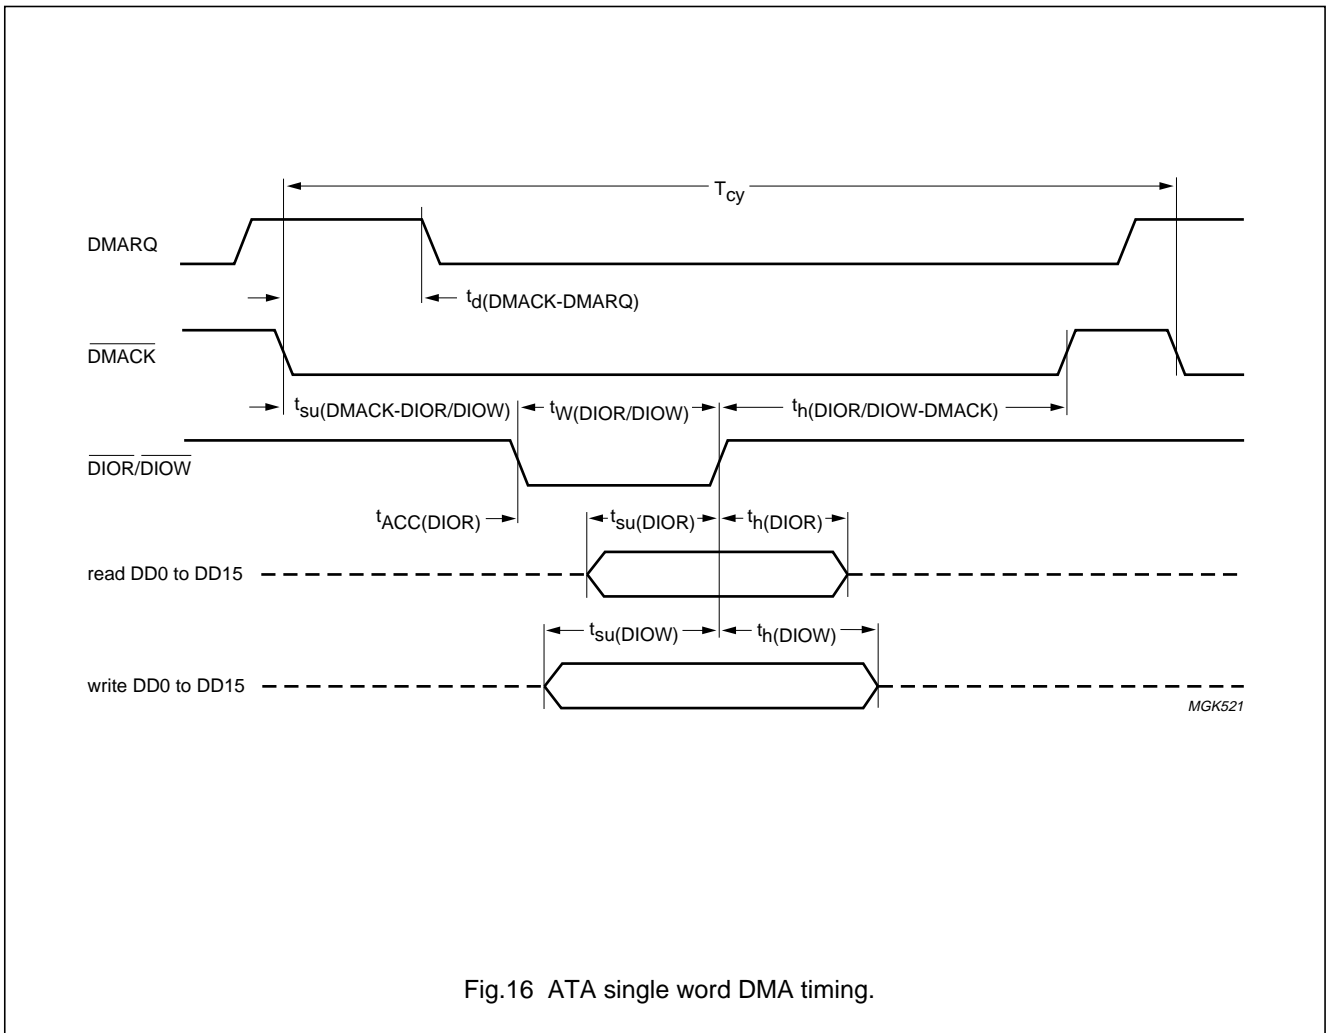

Fig.16 ATA single word DMA timing.
**Table 107** Single word DMA timing; see Fig.16